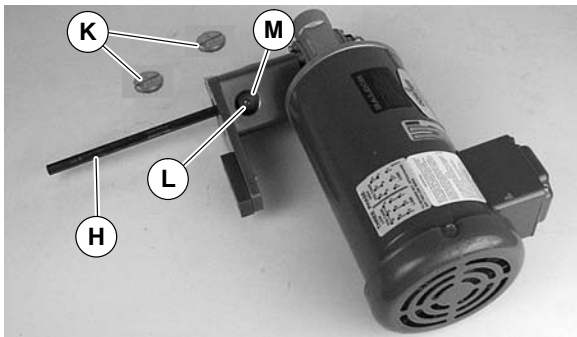

Figure 8
5a. Remove inspection plugs (K of Figure 8).
7a. Jog motor and rotate coupling to align set screw (L of Figure 8) with access hole (M). Tighten to 32 in-lb (3.7 N-m). Repeat for second set screw.